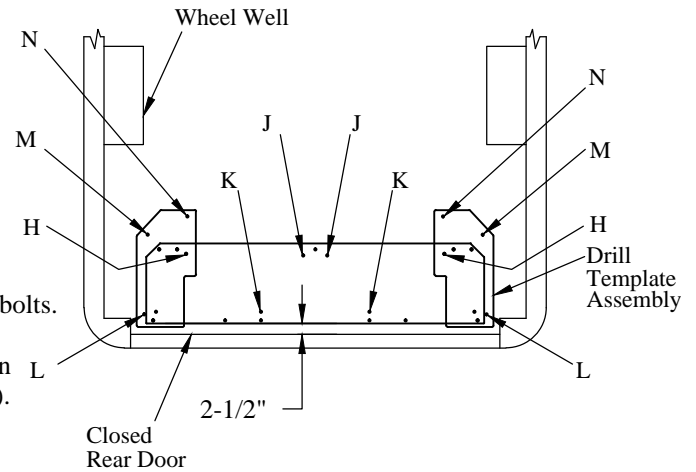

Figure 14: Bolt locations (top view).
3. **Install** two (2) 3/8" x 2" bolts with 3/8" flat washer and square washer at "K" locations in the base plate, up from the bottom of the van floor (Figure 14 and Figure 15).
5. **Insert** two (2) 3/8" x 2" bolts at "L" locations in the base plate, down through van floor (Figure 14 and Figure 15).
7. **Place** a 3/8" flat washer on remaining eight (8) 3/8" x 2" base plate bolts.
8. **Insert** eight (8) 3/8" x 2" bolts at "H", "J", "M", and "N" locations in the base plate, down through van floor (Figure 14 and Figure 16).